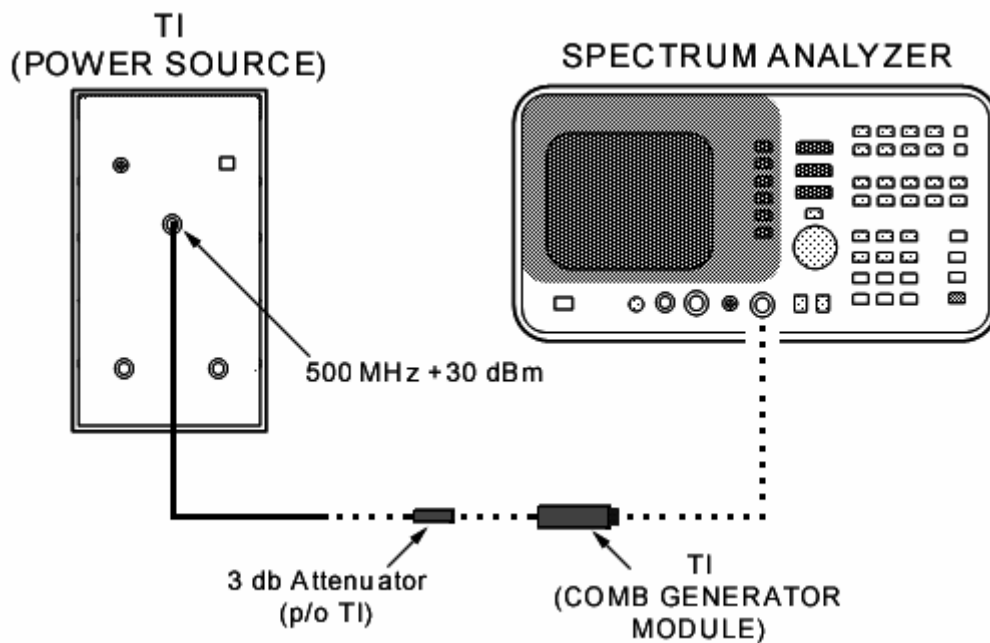

Figure 2. Output power - equipment setup.
(1) Connect equipment as shown in figure 2.
(2) Press **STANDBY** pushbutton to **ON**.
(3) Adjust spectrum analyzer to display the comb line frequencies listed in table 3. Comb lines will be within limits specified.